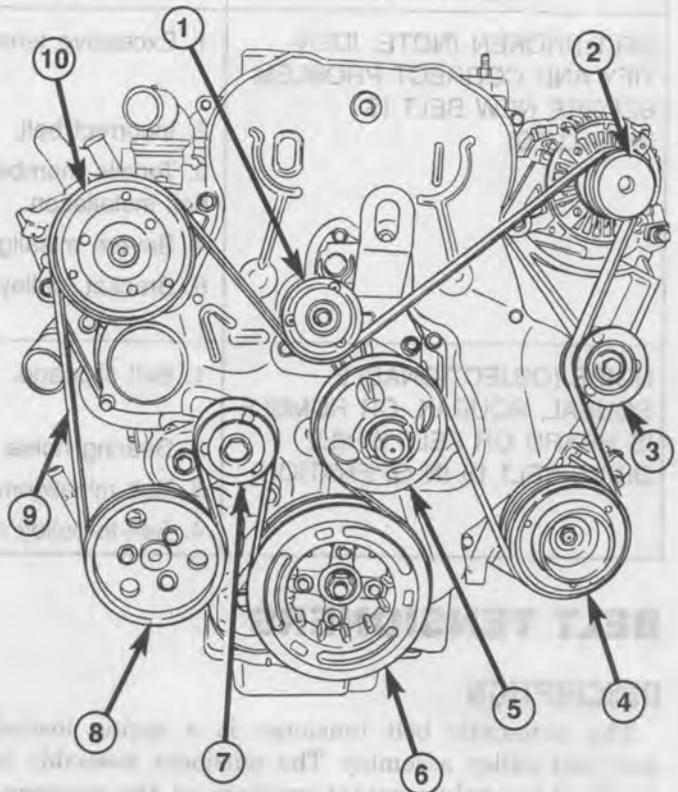

Fig. 4 ACCESSORY BELT ROUTING
(1) Disconnect negative battery cable.
(2) Remove accessory drive belt (Fig. 4) (Refer to 7 - COOLING/ACCESSORY DRIVE/DRIVE BELTS - REMOVAL).
(2) Install accessory drive belt (Fig. 4) (Refer to 7 - COOLING/ACCESSORY DRIVE/DRIVE BELTS - INSTALLATION).
(3) Connect negative battery cable.